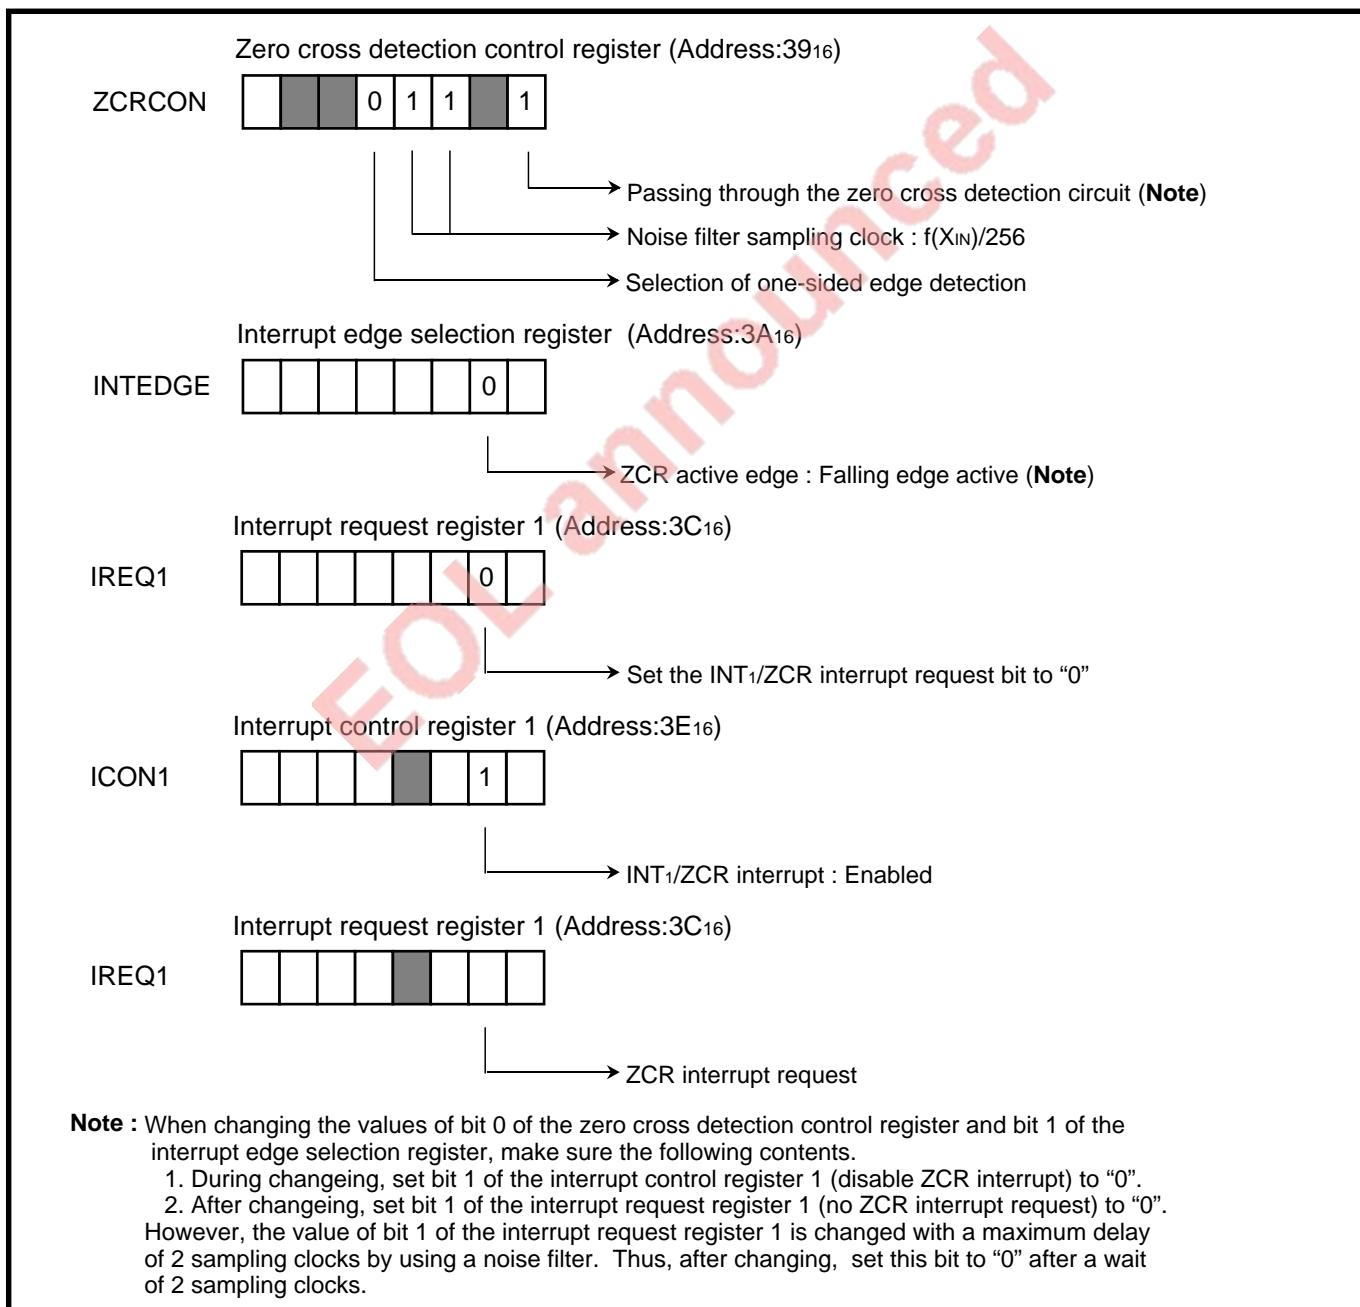

Fig. 2.7.8 Setting of related registers [Clock count using ZCR interrupt (using a noise filter)]
Figure 2.7.8 shows a setting of related registers.
**Control procedure :** ① Set the related registers according to Figure 2.7.8.
- ② At the falling edge of the commercial frequency (50 Hz or 60 Hz), the ZCR interrupt occurs.
- ③ The clock is counted up every second in the ZCR interrupt processing routine.